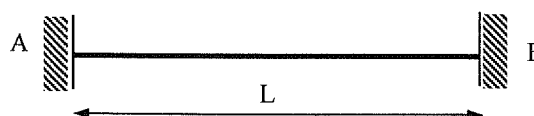

Figure Q2(a)
- (a) A fixed end beam (AB) is shown in Figure Q2(a). If the support A rotates by θ_A , obtain the resulting bending moments at both ends. Flexural rigidity of the beam is EI. (Hint: You may use Moment Area Method).